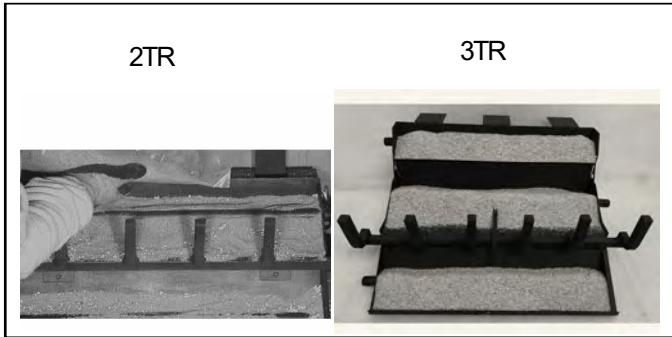

Figure 7.3 Sand Placement
2. Level the sand from side to side to ensure an even flame pattern. At this point the pans should be half full. See Figure 7.3.